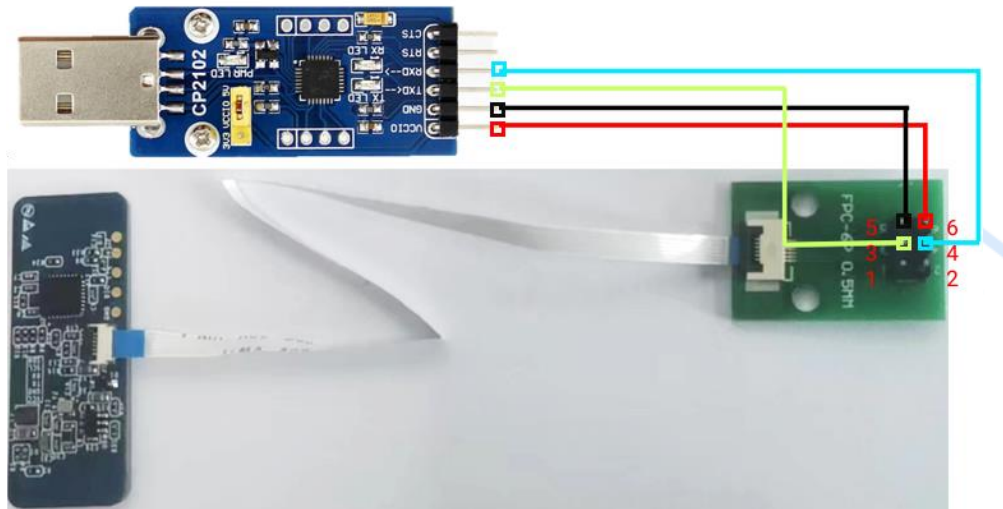

Figure 4-1 Example of connecting Xen202_E with interposer board and USB serial port tool
- a) Connect XenP202TE to a USB serial port tool using an FPC interposer board and FPC soft cable, as shown in Figure 4-1.